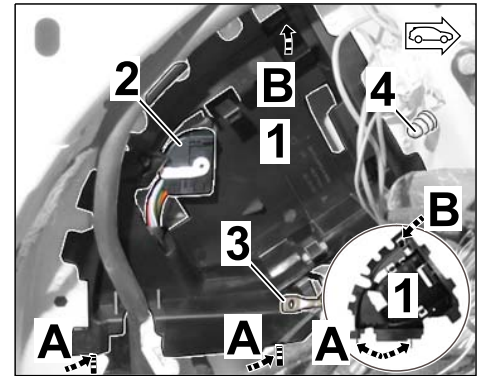

Figure 12
2.4.2 Insert pins (2 x on underside of control unit bracket) into the body (⇒ *Figure 12-A-*)
2.4.3 Clip trailer hitch control unit bracket at the top into the web plate on the body (⇒ *Figure 12-B-*).